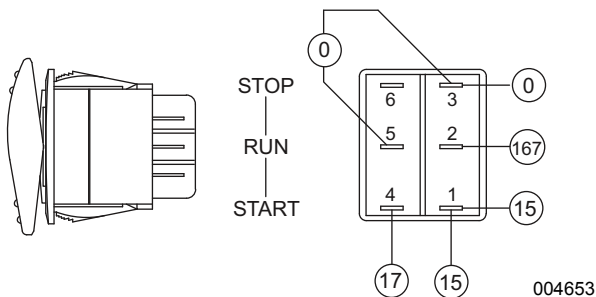

Figure 4-35. Start-Run-Stop Switch (SW1)
6. See Figure 4-35. Remove wire 0 from both positions on the start-run-stop switch (SW1).